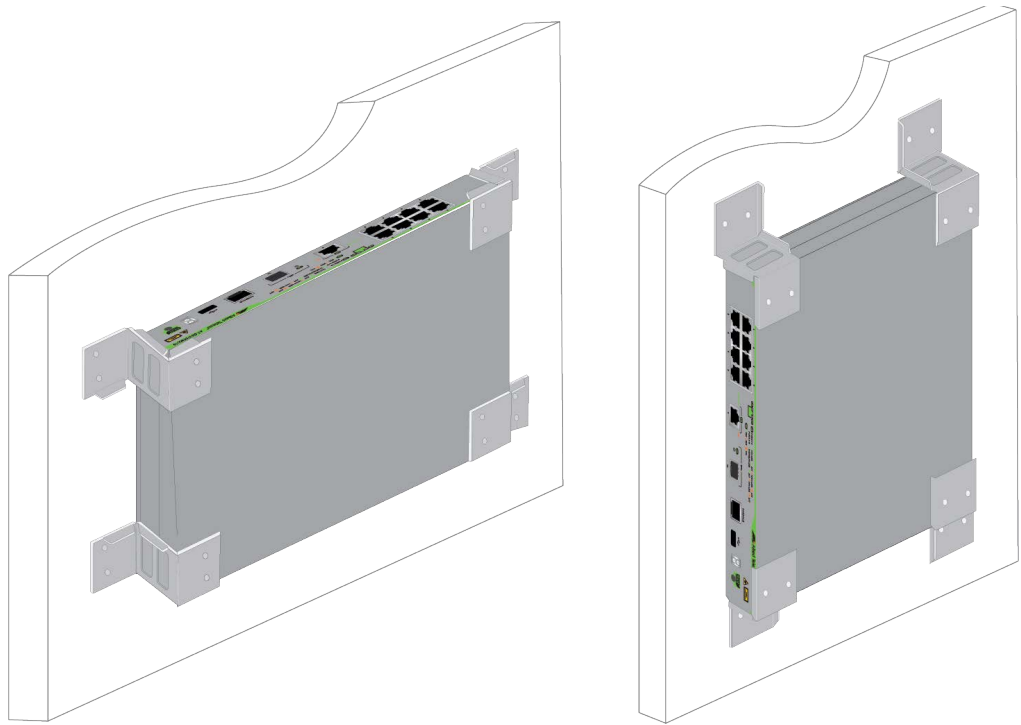

Figure 2. Orientations of the Brackets to a Switch with Four Brackets
- Figure 2 shows the orientation of the brackets using two sets of the BRKT-J23 wall mount kits.